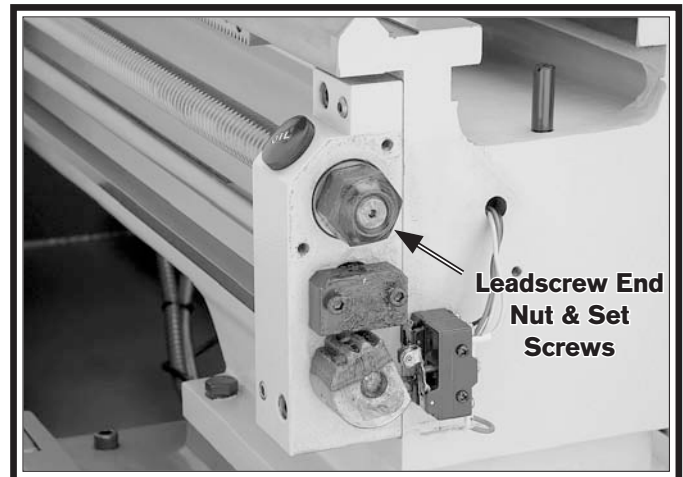

Figure 123. Leadscrew end nut.
3. Loosen the two set screws in the leadscrew end nut (see **Figure 123**).